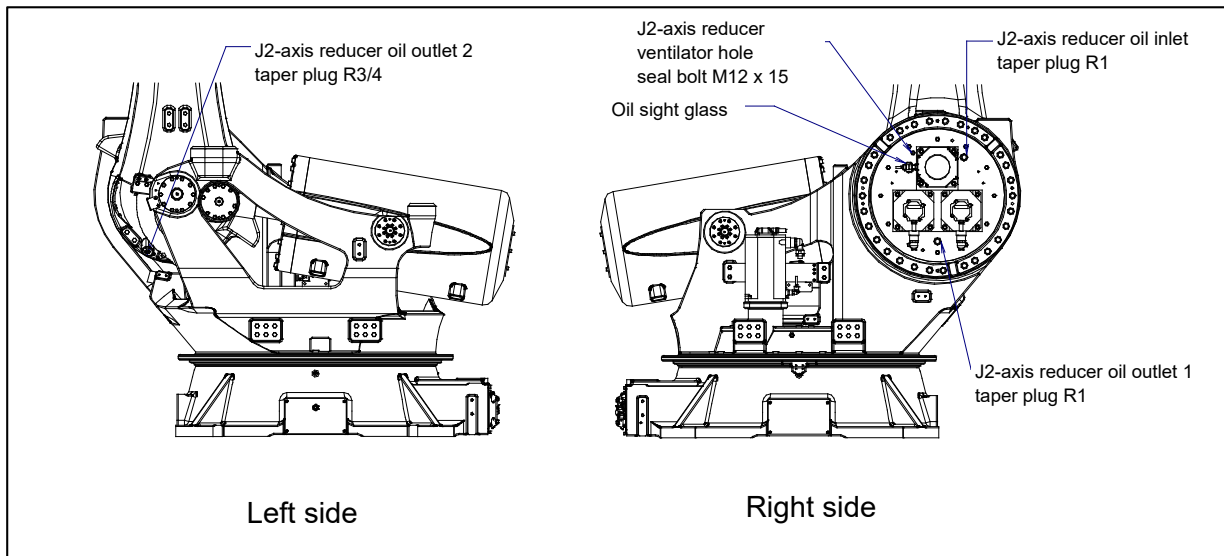

Fig. 7.3.5 (a) Replacing oil of J2-axis reducer
- 4 Remove the seal bolt of the ventilator hole and the taper plug of the oil outlet, then pull out oil (Fig. 7.3.5 (a))